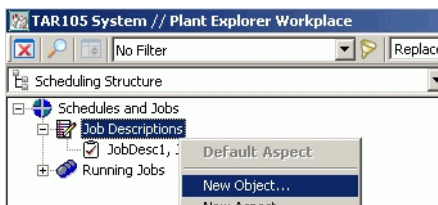

Figure 241. Adding a New Job Object
2. Right-click on **Job Descriptions** and choose **New Object** from the context menu, Figure 241.